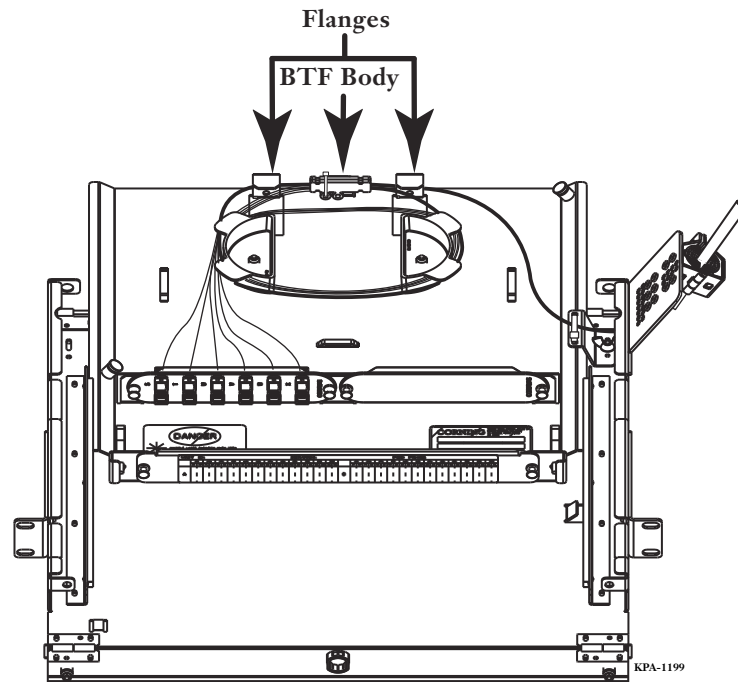

Figure 11 — Fan-out Fiber Routing
- Step 3:** Secure the BTF body to the tray using a cable tie (Figure 11).